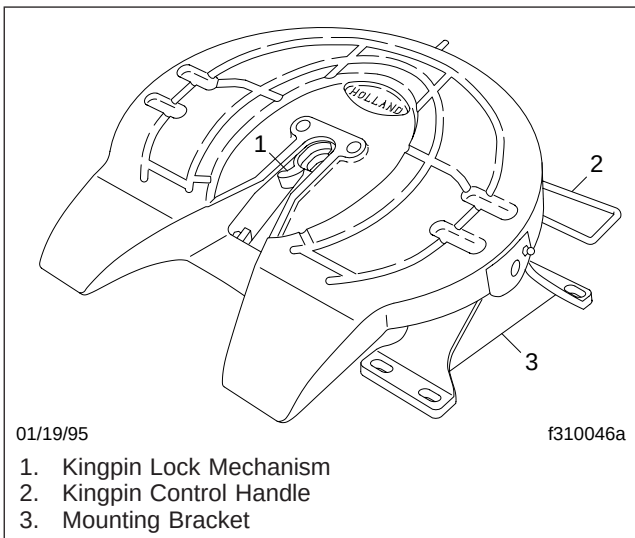

Fig. 10.1, Holland Fifth Wheel
The 2535 and 2536 sliding fifth wheel models incorporate a Model FW8, 3500 or 3600 fifth wheel (**Fig. 10.1**), equipped with an air-operated release slide, a double manual release slide, or a single manual release slide. Sliding fifth wheel assemblies are mounted on a baseplate which permits forward and rear movement along notched rails. Plungers are meshed into teeth on the baseplate to lock the sliding mechanism. Disengagement of the sliding member is accomplished when the plungers are withdrawn (manually or air-operated), releasing the fifth wheel assembly so that it can be positioned for optimum weight distribution over the tractor axles.
6. Release the kingpin locking mechanism by pulling the kingpin lock control handle (Fig. 10.1) to the outward position.